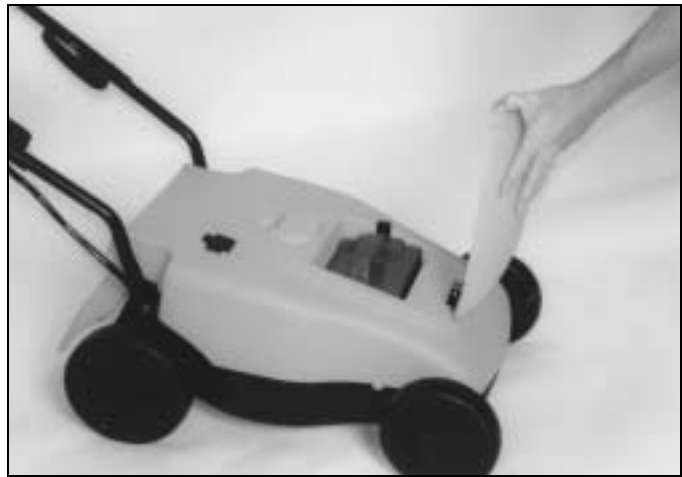
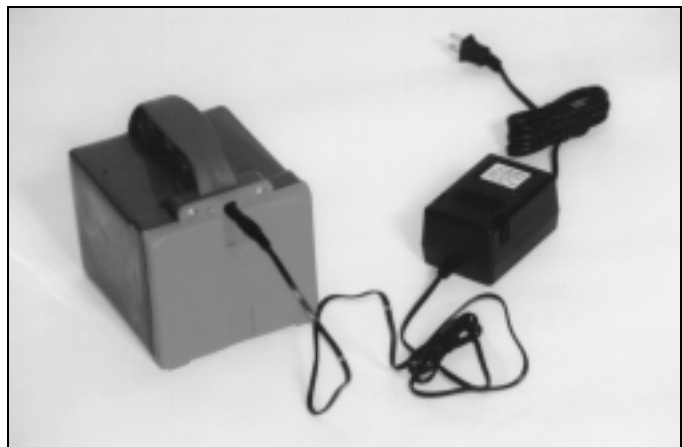

Figure 10
Figure 11
- Remove the battery pack from the mower to recharge (*Figure 10*). Connect the charger plug to the charger receptacle on the battery pack (*Figure 11*), then plug the charger into a wall outlet. A red light on the battery pack will indicate the battery pack is being charged.